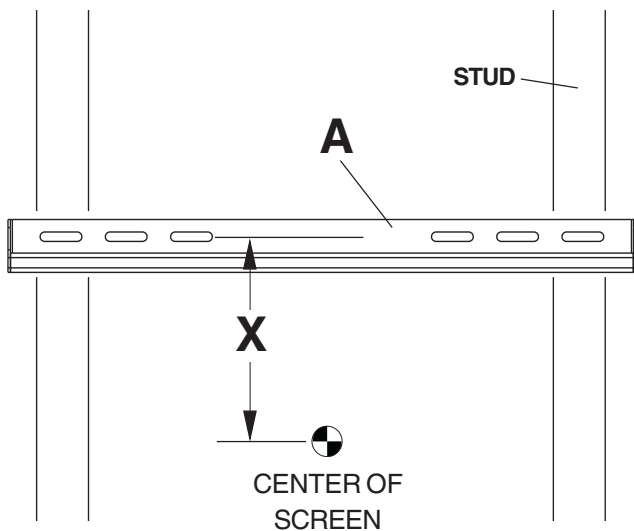
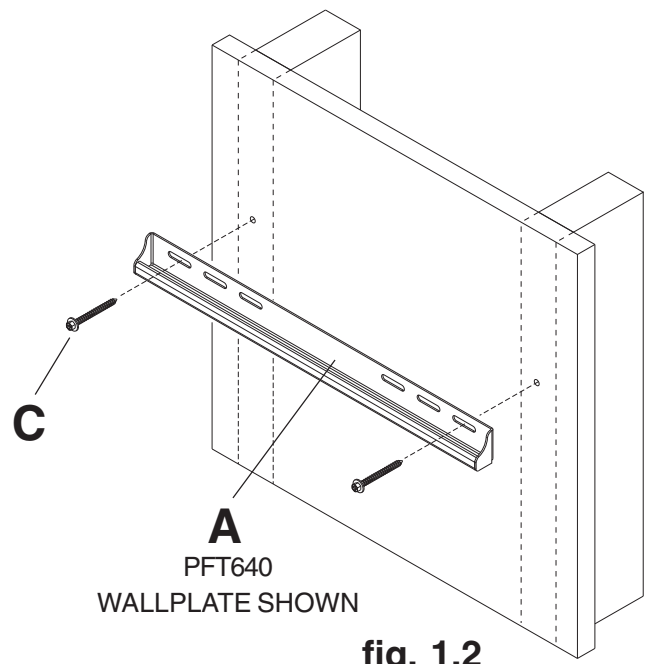
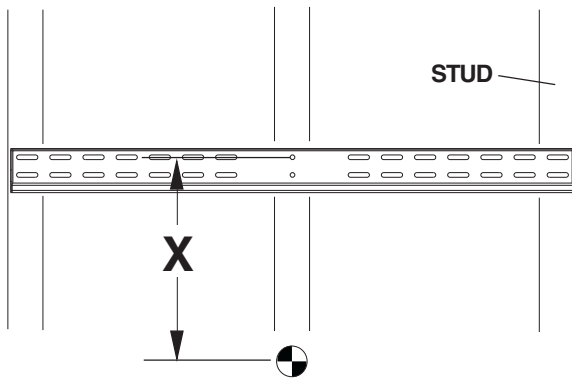
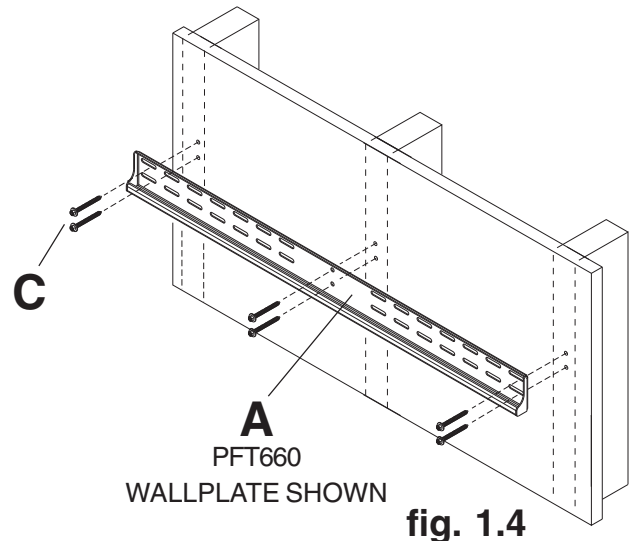

fig. 1.1
fig. 1.2
fig. 1.3
fig. 1.4
- 1 Wall plate (A) can be mounted to two studs that are 16" apart. Use a stud finder to locate the edges of the studs. Use of an edge-to-edge stud finder is highly recommended. Based on their edges, draw a vertical line down each stud's center. Place wall plate on wall as a template. The top mounting slots should be located above the desired screen center as shown in figure 1.1. **Note:** Screen tilt will determine wall plate location. Level plate, and mark the center of the two mounting holes. Make sure that the mounting holes are on the stud centerlines. Drill two 5/32" (4 mm) dia. holes 2-1/2" (65 mm) deep. Make sure that the wall plate is level, secure it using two #14 x 2.5" wood screws (C) as shown in figure 1.2.
1 Wall plate (A) can be mounted to three studs that are 16" apart. Use a stud finder to locate the edges of the studs. Use of an edge-to-edge stud finder is highly recommended. Based on their edges, draw a vertical line down each stud's center. Place wall plate on wall as a template. The top mounting slots should be located above the desired screen center as shown in figure 1.3. **Note:** Screen tilt will determine wall plate location. Level plate, and mark the center of the six mounting holes. Make sure that the mounting holes are on the stud centerlines. Drill six 5/32" (4 mm) dia. holes 2-1/2" (65 mm) deep. Make sure that the wall plate is level, secure it using six #14 x 2.5" wood screws (C) as shown in figure 1.4.
1 Make sure that wall plate (A) is level, use it as a template to mark two mounting holes. The top mounting hole should be above the desired screen center as shown in figure 1.1 on page 4 or figure 1.3 on page 5. **NOTE:** Screen tilt will determine wall plate location. Drill two 1/4" (6 mm) dia. holes to a minimum depth of 2.5" (64 mm). Insert anchors (D) in holes flush with wall as shown (right). Place wall plate over anchors and secure with #14 x 2.5" screws (C). Level, then tighten all fasteners.